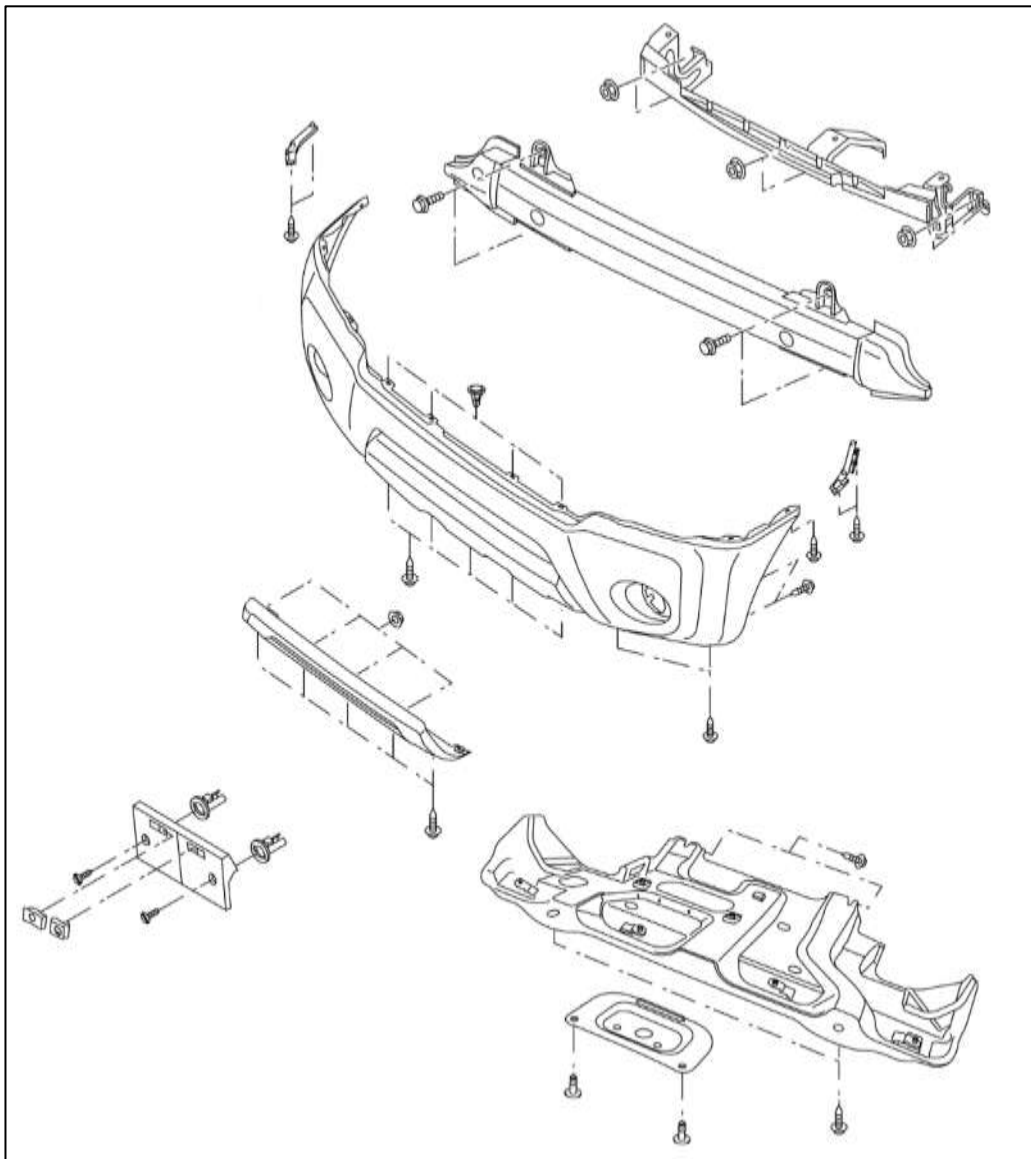

Figure 2
7. Remove the Front Bumper and OEM Crash Bar Assembly. Use *Figure 2* below to locate the mounting screws and tabs that hold these pieces on. Retain the hardware as it will be reused.